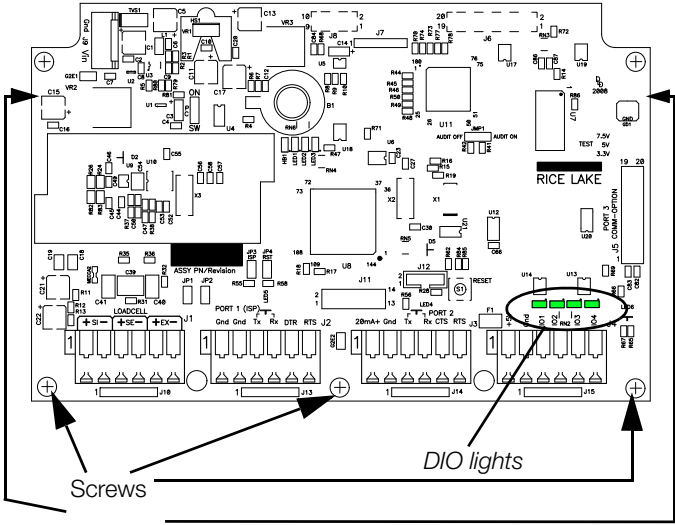

Figure 2-4. Digital I/O lights and screw locations
The Digital I/O can be configured as either digital inputs or digital outputs as determined by the DIO menu (see Section 3.4.4 on page 27). The inputs are active (on) with low voltage (0 VDC) and can be driven by TTL or 5V logic without additional hardware. Use the DIG I/O menu (see Section 3.4.4 on page 27) to configure the digital inputs. LEDs on the CPU board light when digital inputs are active (see Figure 2-4).
Digital outputs are typically used to control relays that drive other equipment. Outputs are designed to sink not source, switching current. Each output is a CMOS circuit, capable of sinking 24 mA when active. Digital outputs are wired to switch relays when the digital output is active (low, 0 VDC) with reference to 5 VDC supply. LEDs on the CPU board light up when the digital outputs are active (see Figure 2-4).
4. There are two boards: the CPU board and the keypad display board. Remove the five screws connecting the CPU board (see Figure 2-4), then lift the board out of the enclosure.